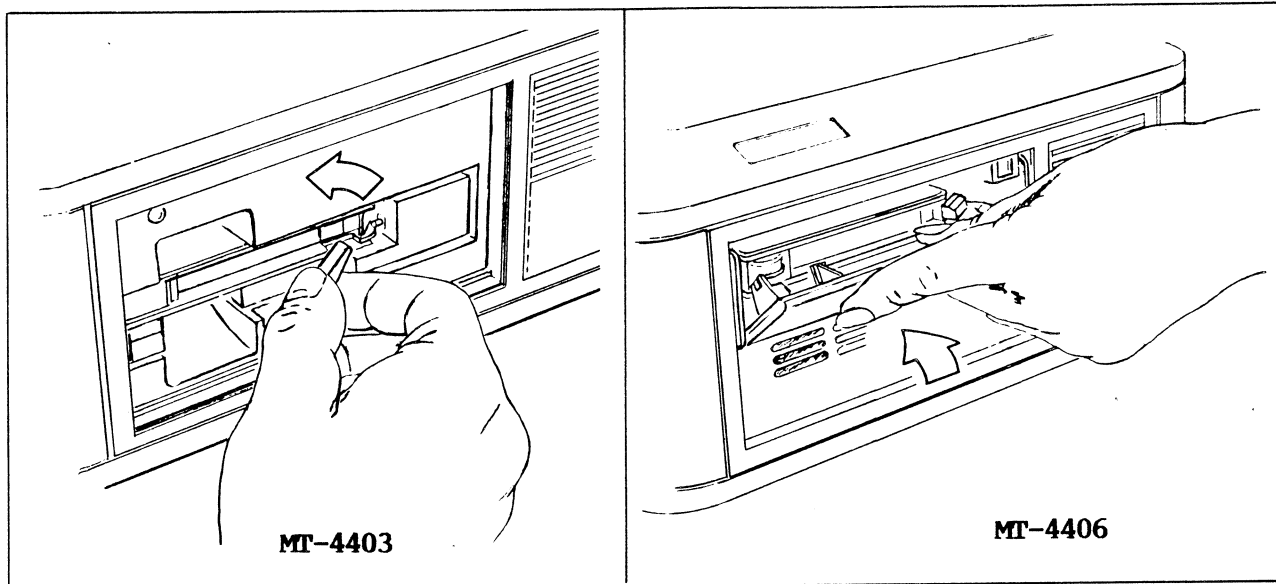

Figure 3-7. Closing the MTCS
4. MT-4403. Lock tape cartridge in place by moving the front lever up to its vertical position (see figure 3-7).
MT-4406. Push cartridge door up until it locks (see figure 3-7).